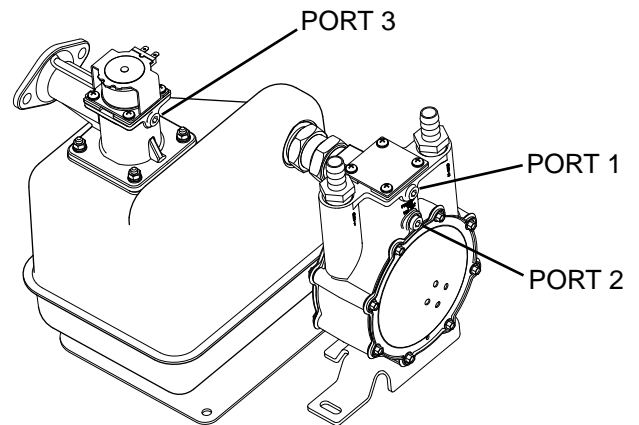

Figure 14. Gas Pressure Test Point
1. Install a manometer to Port 2 on the fuel regulator. See Figure 14.